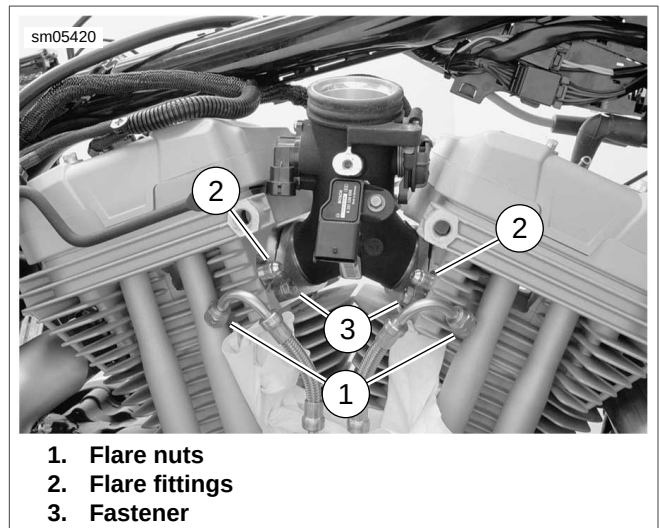

Figure 4-51. Remove Induction Module
- e. TP sensor (7) connector [88].
8. **California models:** Remove purge hose from fitting (8).
9. See Figure 4-51. Disconnect oil line flare nuts (1) from flare fittings (2) in cylinder heads. Remove flare fittings (2) from cylinder heads.
11. Remove two screws (3) securing induction module to cylinder heads on right side of vehicle.
4. See Figure 4-51. Place induction module assembly in position between engine heads. Slide open slotted ends of mounting flanges under heads of two mounting screws on left side of engine.
5. While holding induction module assembly in place, install two mounting screws (3) into remaining mounting flange holes. Tighten all four screws finger-tight.
7. Inspect o-rings on flare fittings (2) and replace as necessary. Install flare fittings in cylinder heads and tighten to 22-26 ft-lbs (29.8-35.3 Nm).
8. Connect oil line flare nuts (1) to flare fittings (2) and tighten to 13-17 ft-lbs (17.6-23.0 Nm).